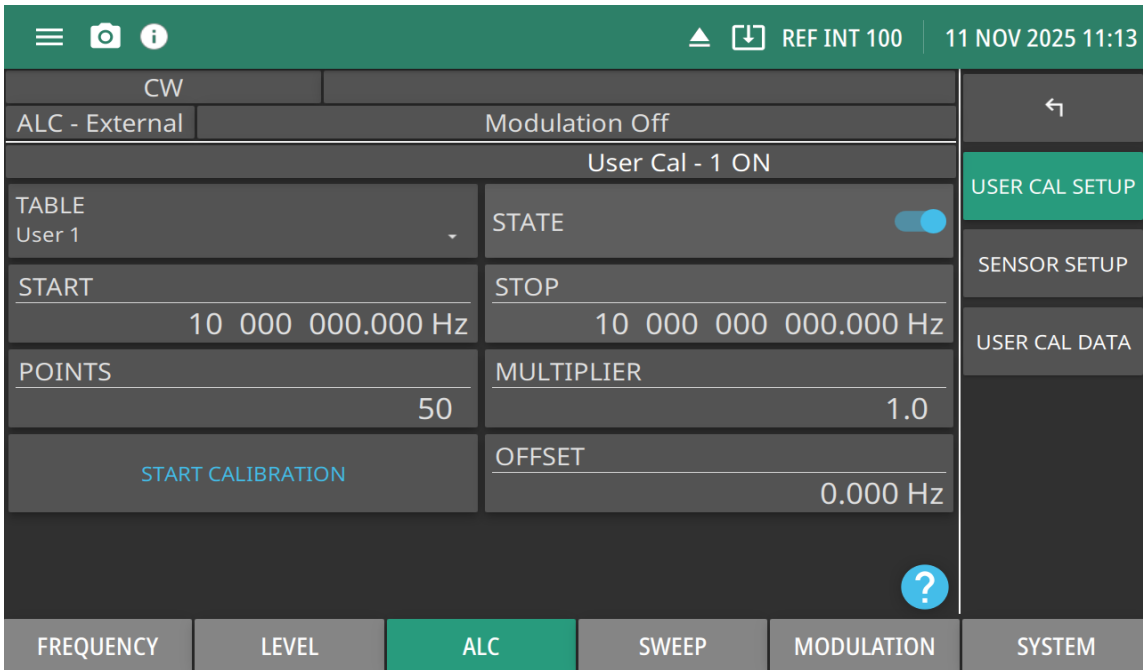

Figure 3-36. ALC - USER CAL Menu
- 5. Press **USER CAL** submenu, and select any one of the power-offset tables (User 1 to User 10) from **TABLE** drop-down. See Figure 3-36.
- 11. Turn on STATE toggle in order to apply the power-offset table. Note that when the State toggle is turned on, User Cal - 1 ON will be displayed on the top. See Figure 3-36. The number displayed depicts the selected user cal table, in this case it is User 1 table.